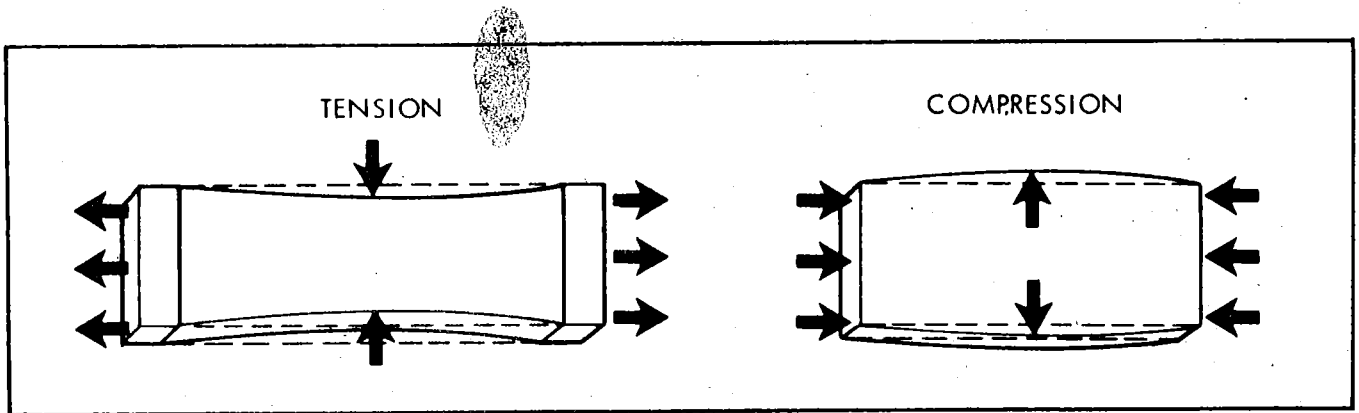

FIGURE 6-3 TYPICAL DEFORMATION OF A RECTANGULAR BAR UNDER TENSION AND COMPRESSION TESTS
6.11 LATERAL DEFORMATION (Figure 6-3)